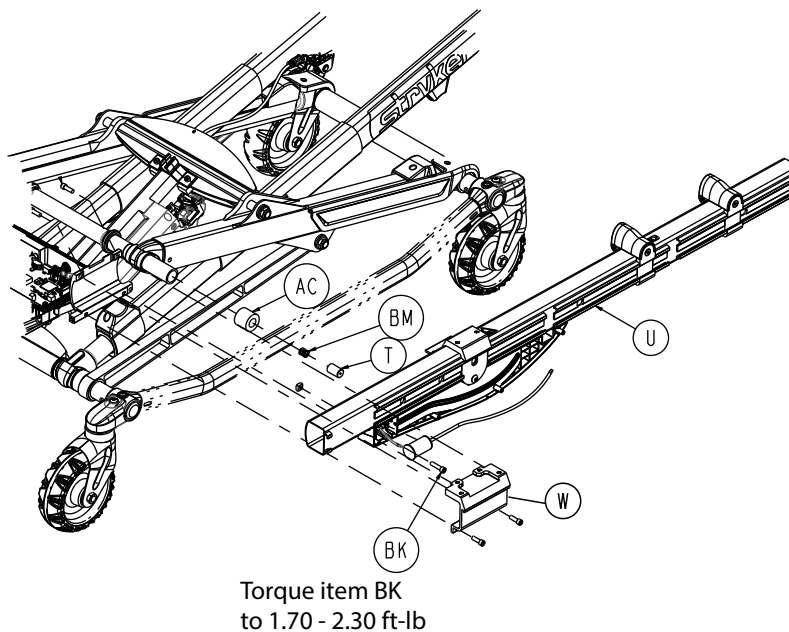

Figure 112 – Discard the slider roller
14. Using a 3/16" hex wrench, remove the socket head cap screw (BK) that secures the slider block to the hitch bracket I-clamp (W) to the outer rail (U) (Figure 112). Save the screw.
16. Remove slider roller (AC), slide magnet assembly (T), and compression wire (BM) (Figure 112). Save the slide magnet assembly and compression wire. Discard slider roller.